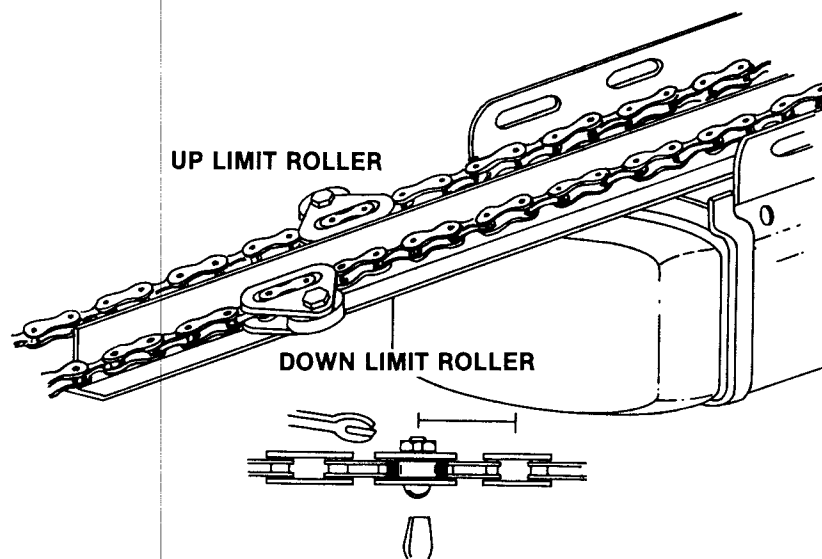

FIG. 8
**STEP 7.** With the disconnect still in the release position, start the operator in the closing direction (carrier forward) by means of the pushbutton and allow it to stop on the DOWN limit setting. Should the position of the inner carrier slide not coincide with the position of the outer slide determined in **STEP 6**., it will be necessary to re-position the DOWN limit cam so that the outer slide of the carrier stops as close as possible to this point. Move the DOWN limit roller assembly on the chain toward the door if more travel is needed; toward the operator head to reduce travel of the carrier. (See Fig. 8).